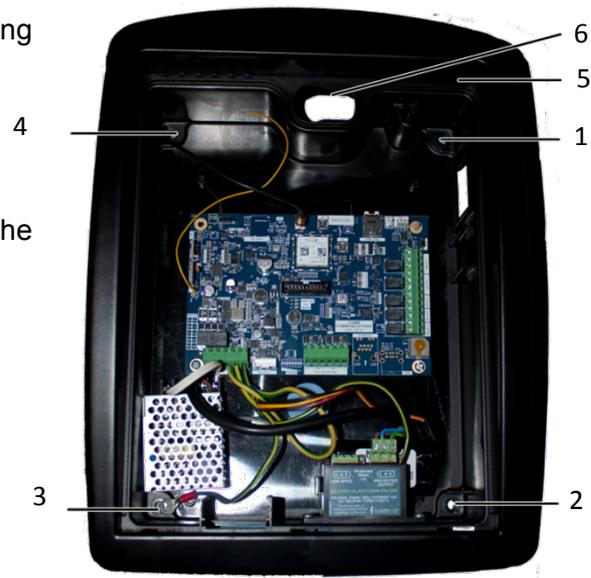

Figure 17: Remove Cover from Mounting Plate
11. Remove the cover (5) from the mounting plate (6) as follows (See Figure 17):
- b. Remove the housing (5) from the mounting plate (6).